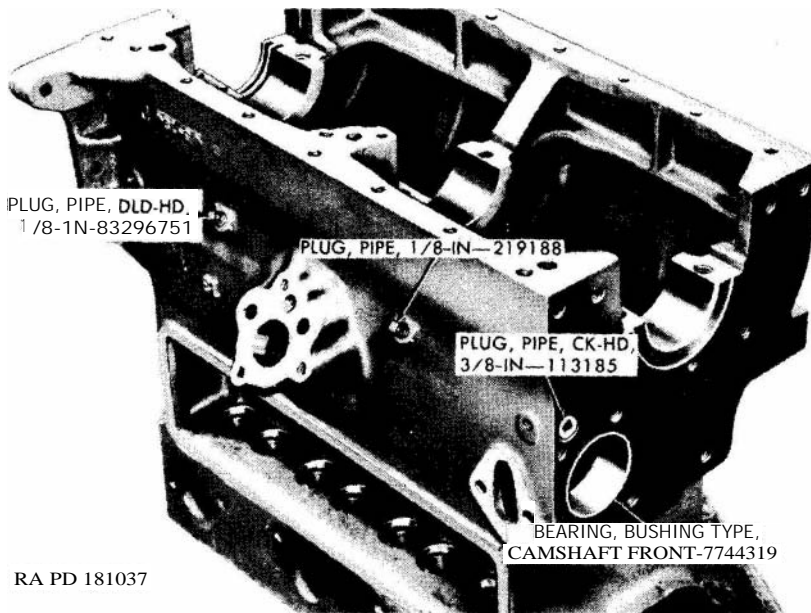
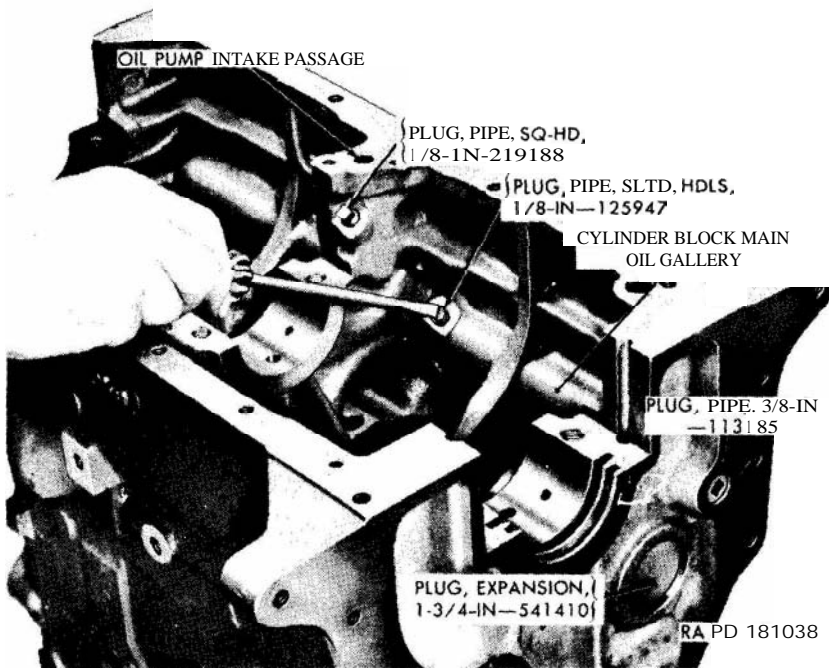
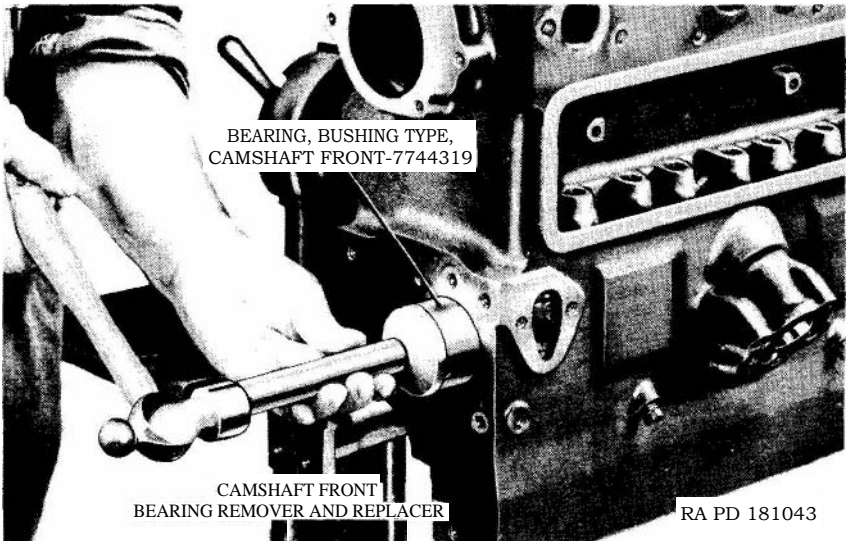

Figure 26. Location of oil gallery external hole plugs.
Figure 27. Location of oil gallery internal hole plugs.
Figure 32. Installing camshaft front bearing.
a. Remove the two pipe plugs (*fig. 26*) from the left outside surface of the cylinder block. Remove the two countersunk-head pipe plugs (*fig. 26*), one from each end of the block. Remove the slotted-headless pipe plug (*fig. 27*) from the cylinder block main oil gallery, and
the square-head pipe plug (fig. 27) from the tapped opening just below the oil pump intake passage inside the cylinder block.
b. Insert a 24-inch length of $\frac{1}{2}$ -inch bar stock into the camshaft bore in the cylinder block and drive against the bar to dislodge the expansion plug (fig. 27) from its seat in the rear end of the cylinder block.
c. Check the inside dimension of the front camshaft bushing type bearing (fig. 26). If the dimension does not exceed 2.1880 inch, the bearing need not be removed. If removal of the bearing is necessary, use the improvised camshaft front bearing remover and replacer (fig. 32) and drive the bearing out of the cylinder block.
- (2) Clean the cylinder block main oil gallery (fig. 27) and the smaller oil passages in the cylinder block using round wire brushes slightly larger in diameter than the passages. Force flush the passages using cleaning fluid under pressure.
b. Coat the threads with plastic type gasket cement and install the two 3/8-inch countersunk-head oil gallery pipe plugs (A), one in each end of the cylinder block (fig. 27). Install the two 1/8-inch square-head pipe plugs (L and J) in the openings in the oil passage on the left outside of the engine, making sure the plug with the drilled-head (L) is installed in the hole nearest the rear end of the engine (fig. 26).
c. Install the 1/8-inch slotter-headless pipe plug (K) in the opening in the main oil gallery inside the cylinder block (fig. 27). Install the 1/8-inch square-head pipe plug (J) in the opening in the oil passage directly below the oil pump intake passage.
d. If necessary, replace the camshaft front bushing type bearing (par. 50c), using the improvised camshaft front bearing remover and replacer (fig. 32). Slide the bearing onto the arbor of the remover and replacer, notched end first. Align the oil hole in the bearing with the oil hole in the bore in the cylinder block and drive the bearing into the bore until the front end of the bearing is flush with the front surface of the cylinder block.